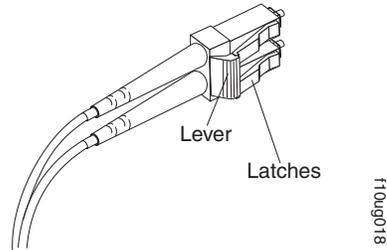

Figure 32. LC-LC fibre-channel cable lever and latches
1. On the end of the cable that connects into the LC connector end of the LC-SC cable adapter, press down and hold the lever to release the latches. Figure 32 shows the location of the lever and latches.